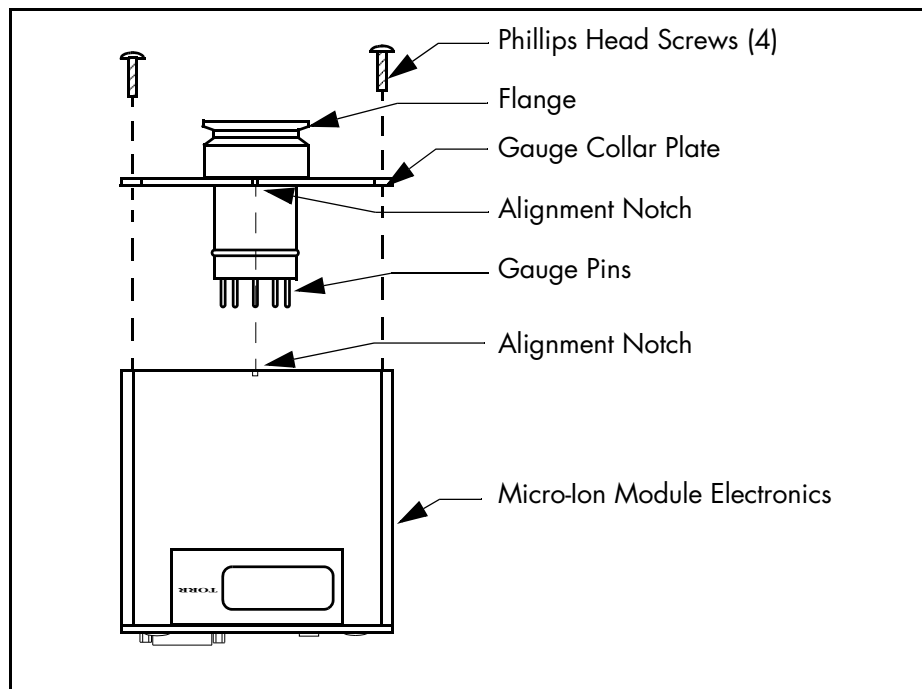

Figure 4-1 Micro-Ion Gauge Removal.
- A chamber bake of 100 to 150 °C is often required. When baking the chamber, be sure the temperature of the gauge tube and the vacuum plumbing to the gauge tube is raised at least as much as the chamber. The electronics module must be removed from the gauge if the bake-out temperature exceeds 70 °C. This can be done without breaking vacuum by removing the four screws securing the front plate to the aluminum extrusion enclosure. Pull the module away from the plate after the 4 screws are removed. The plate will stay attached to the gauge tube (see Figure 4-1). Do not exceed 200 °C.
4. Remove the four Phillips head screws from the gauge collar plate as shown in Figure 4-1.
5. While holding the flange, *gently* pull the Micro-Ion Vacuum Gauge Module away from the gauge collar plate as shown in Figure 4-1. The gauge tube and plate will disconnect from the module.